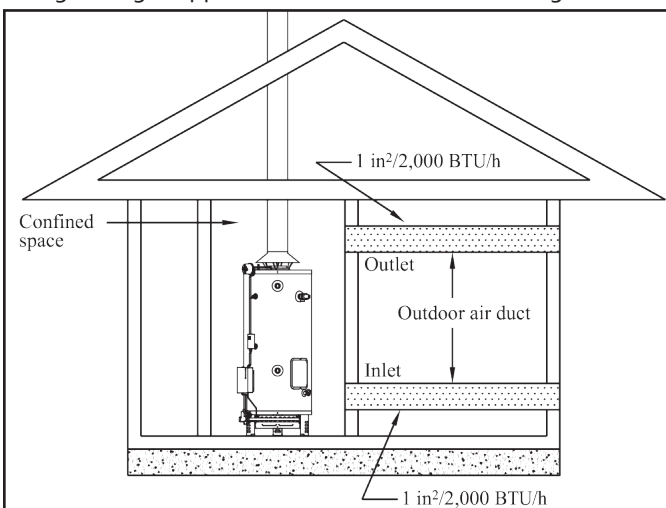

Figure 6 - Confined Space - Communicating Outdoors through Horizontal Ducts
3) When communicating with the outdoors through horizontal ducts, each opening shall have a minimum free area of one (1) square inch per 2,000 BTU/H (11 cm²/kW) of the total input rating of all gas appliances in the enclosure. See Figure 6.